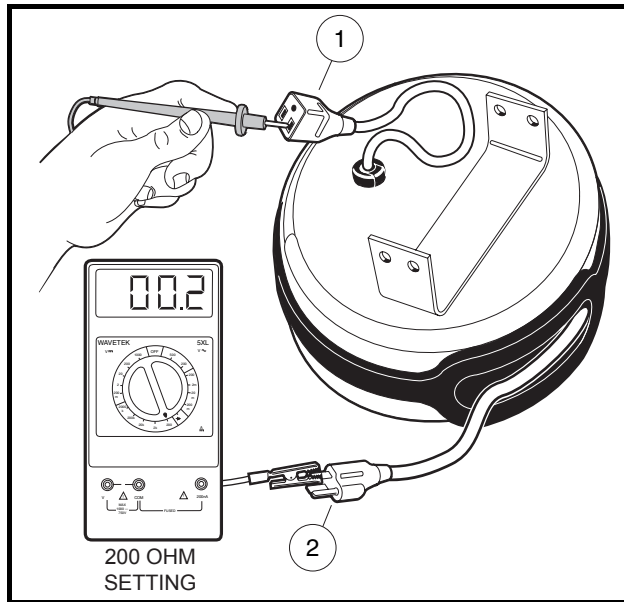

Figure 6-16 Retractable Cord Reel Test
5. Using a multimeter set for 200 ohms, place the red (+) probe in one of the flat blade openings of the cord reel receptacle (1) (**Figure 6-16, Page 6-21**). Test for continuity at the cord reel AC plug (2) on each of the flat blades and then on the round pin of the AC plug. The tester should indicate continuity on one flat blade only. If any other reading is obtained, the cord reel must be replaced.